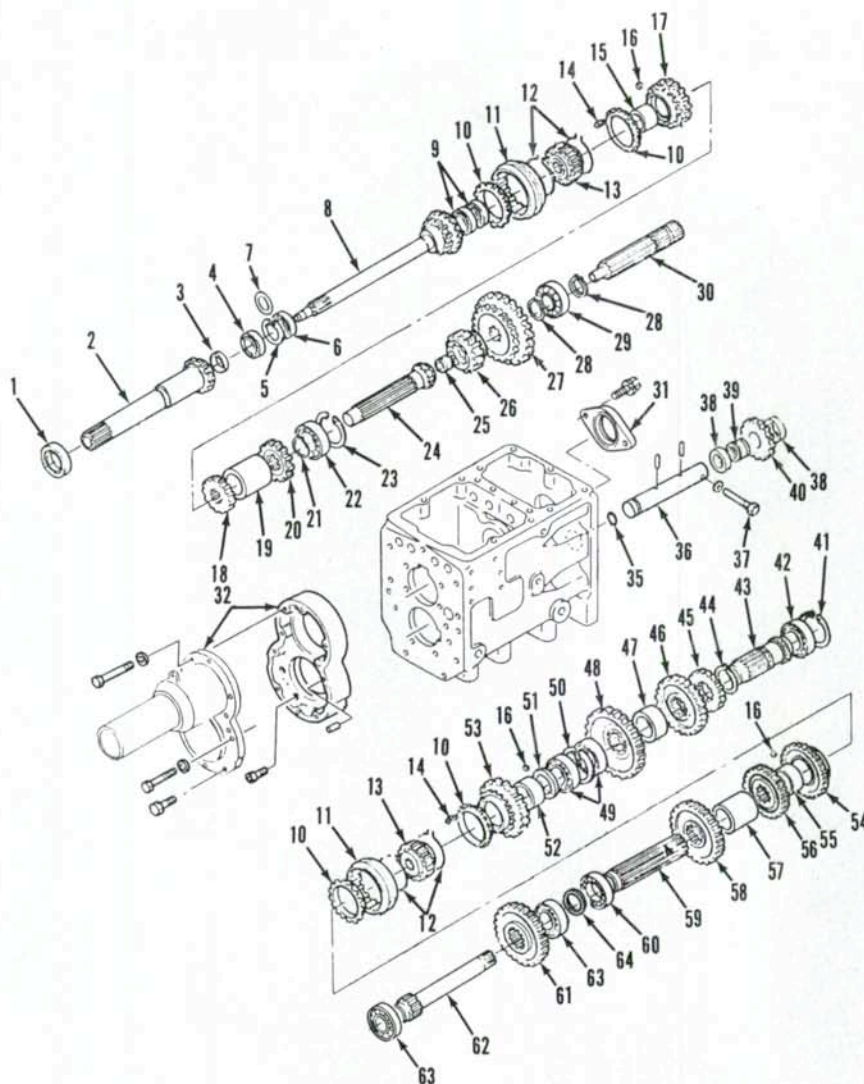

Fig. 216—Exploded view of optional synchromesh transmission used on some 1310, 1510, and 1710 models. Steel ball (16) is not used on early production models.
Remove cap screws from rear bearing retainer (31—Fig. 216), then withdraw range mainshaft (30) with bearing (29) rearward from housing. Remove range sliding gears (26 and 27).
When installing reverse idler assembly, be sure that hub side of idler gear (40—Fig. 216) faces rearward. Position grooved face of thrust washers (38) toward idler gear.